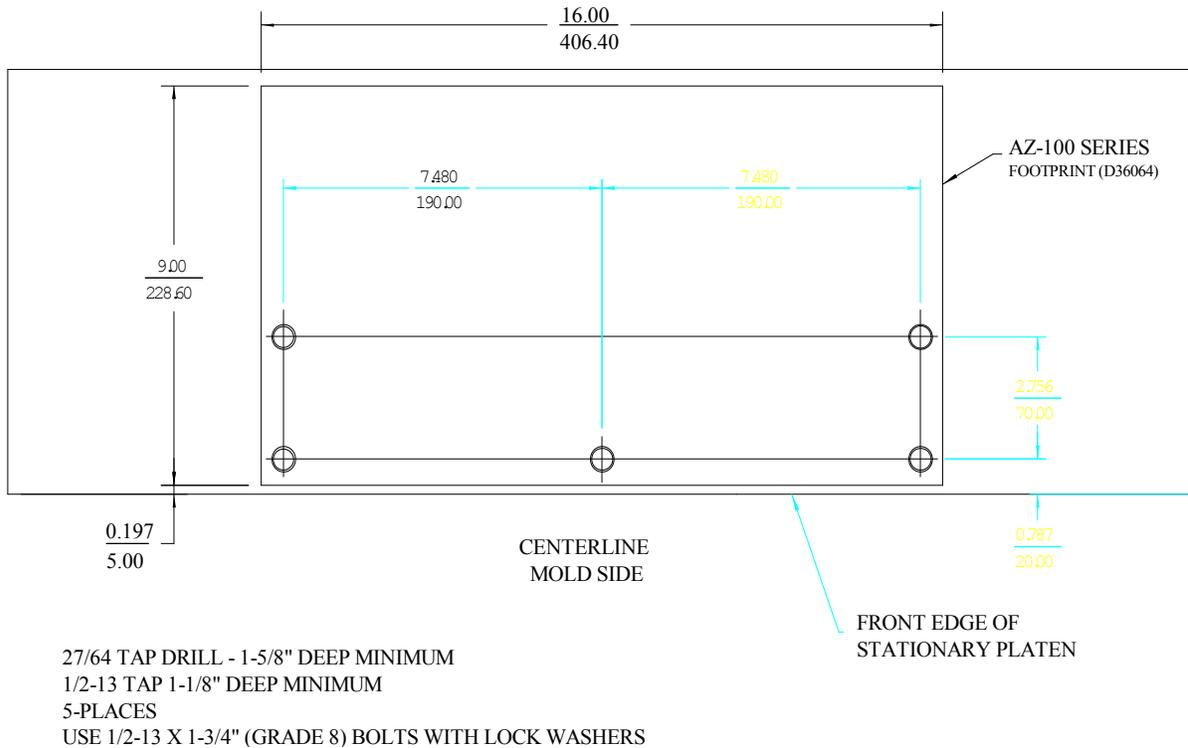

Figure 3.2.1 - AZ-210-310 Mounting Hole Location
3. Drill and tap the mounting holes for the AZ-Series in the stationary platen. Refer to Figures 3.2.1 and 3.2.2 Mounting Hole Location Drawing. Before you drill and tap platen, confirm the base to be mounted. If the pattern cannot be drilled to the specified drawing, contact AAC.